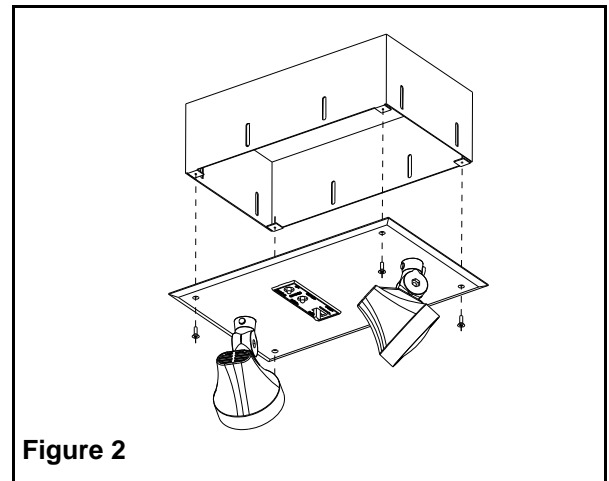

Figure 2
2. Remove the four cover screws and retain. Set cover/electronics assembly aside (see fig. 2).